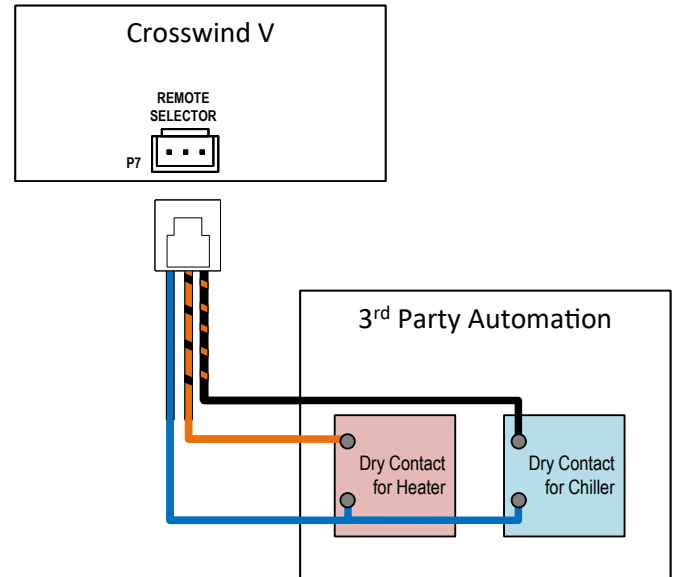

Figure 65. 3-Wire Control
8. For 3-wire control, connect the BLUE wire to one side of the remote controller and connect the ORANGE/BLACK wire for "SPA" operation and the BLACK/ORANGE wire for the "POOL COOL" operation. See **Figure 65**.